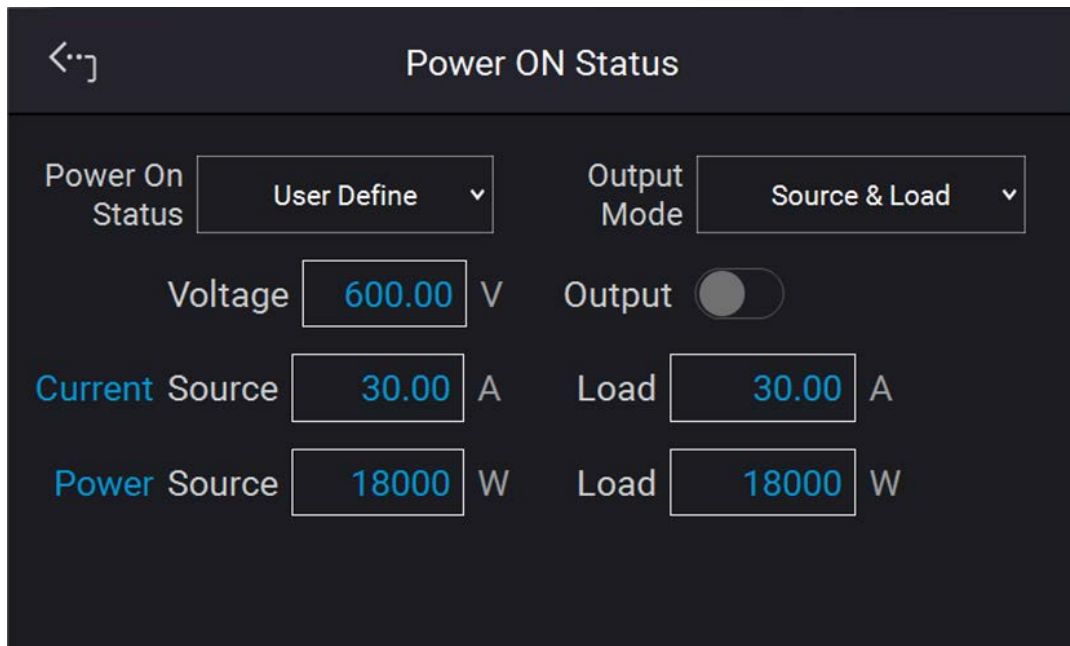

Figure 3-61
- C. When set to User Define a setting line will prompt beneath the Power ON Status line as Figure 3-61 shows to set the default power-on state including voltage (V_SET), current (I_SET) and $OUTPUT=ON/OFF$.